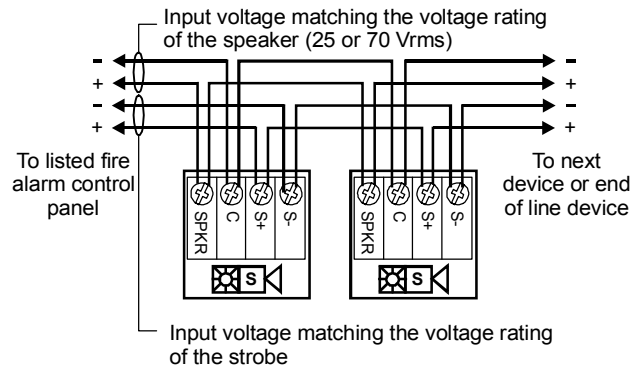

Figure 2: Wiring diagram
2. Connect the speaker and strobe terminals to the signal circuit field wiring. You must observe polarity for the unit to function properly. See Figure 2.